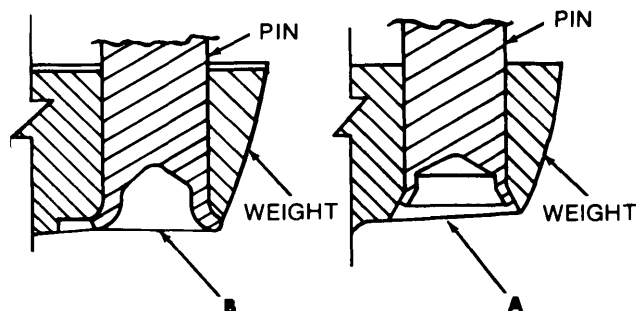

Figure 3-98. Comparison of timing device weight pins.
(2) Inspect the timing device housing (H) for cracks, nicks, burs, and damage to mating surfaces. Replace the housing when cracked. Minor nicks or burs may be cleaned up with crocus cloth.
(3) Inspect the splines of the weight and spider assembly (G), sliding gear (L), and timing device hub (P) for damage, wear, and fit on mating surfaces. Remove minor burs and scratches from splines with crocus cloth. Replace all parts having splines which are damaged or do not fit properly with mating surfaces.
(4) Refer to figure 3-98. Inspect the pins that secure the weights to the spider. Weight and spiders assembled with pin (A) should be discarded and replaced. Weight and spiders assembled with pin (B) can be reused if the pins have no end play and are tight.